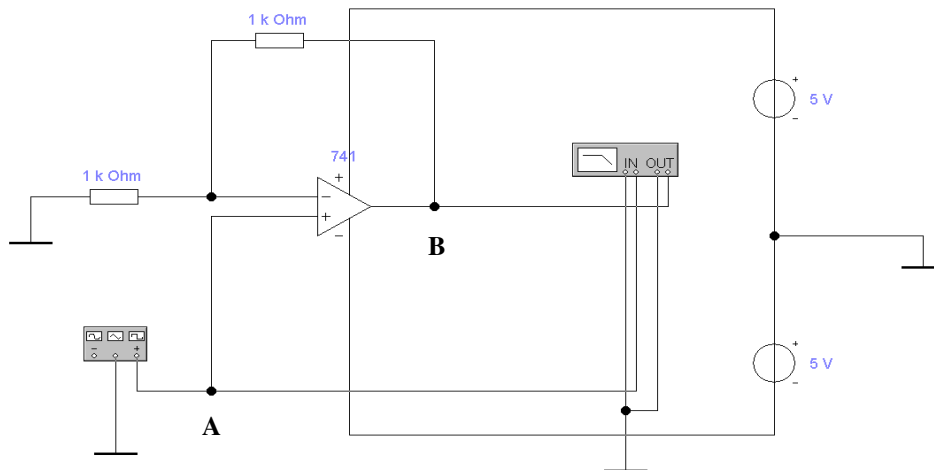

Figure 5 – A standard Non-Inverting Amplifier
Figure 5 shows a standard non-inverting amplifier circuit incorporating an op amp. This circuit demonstrates the effect of negative feedback via the $1\text{k}\Omega$ at the top of the circuit. Build this circuit (you will find the op amp in the Analogue IC's section of the Parts Bin) and, set the function generator to produce a sine wave of 5mV peak to peak.
Q4. Using the circuit from Figure 5, vary the values of the two resistors (call them R_1 and R_2). Can you find a relationship between the resistors and the gain (G) of the op-amp? Once again draw up a table in your lab book to collect the data. Note: Only measure the gain in the flat region of the frequency response.
Q5. Can you explain what has happened to the high frequency response of the circuit in figure 5, over the MHz to GHz range?
Q9. Increase the magnitude of the function generator output (to say 2V), and connect one channel of the oscilloscope to point “A” and the other channel to point “B” of figure 5. Do not forget the ground connection to the oscilloscope. Can you explain what is happening to the signal on the oscilloscope?